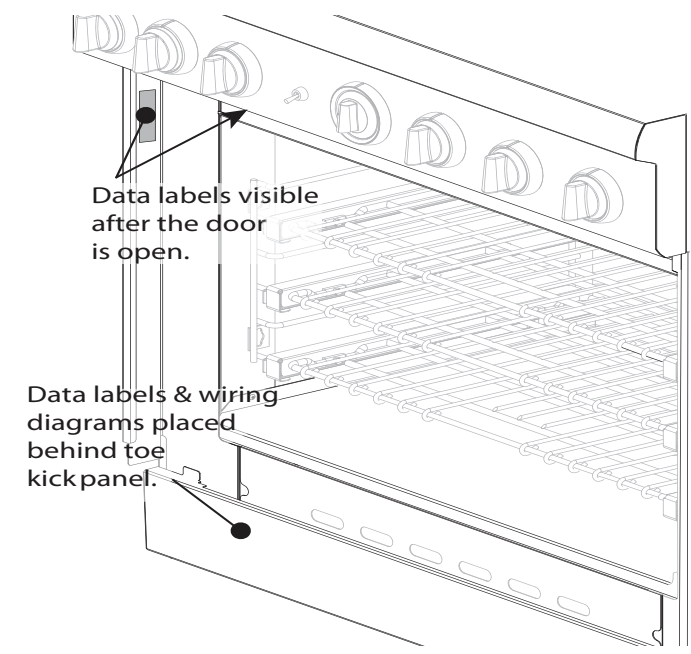

**Figure 22: Hinge Receiver Adjustment Screw**
- For 48" models with large and small ovens, if door or handle appears slightly tilted, you may adjust the hinge receiver by rotating the large Torx-head screw located directly below the hinge receiver with a T-20 Torx driver. Rotate each screw respective to its side and direction the door needs to be adjusted (*Figure 22*).